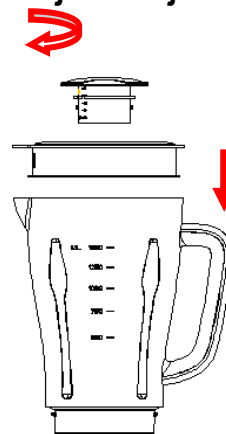

Fig.4
2) Reposition the jar assembly with its opening upwards. Wrap the seal ring 1 around the lid bottom and put the lid onto the jar assembly. Place the measure cup exactly into the lid by fitting the small projection on the both sides of the cup into the slots of the lid and turning the cup clockwise until tight. (See Fig.4)